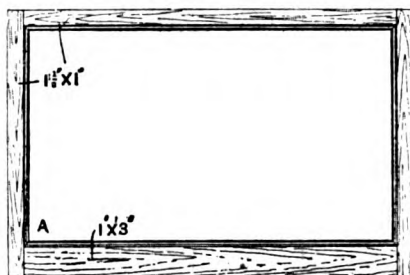

Fig. 1
**Frame for Wire Blind.**—Fig. 1 shows the general form of the frame for a wire window